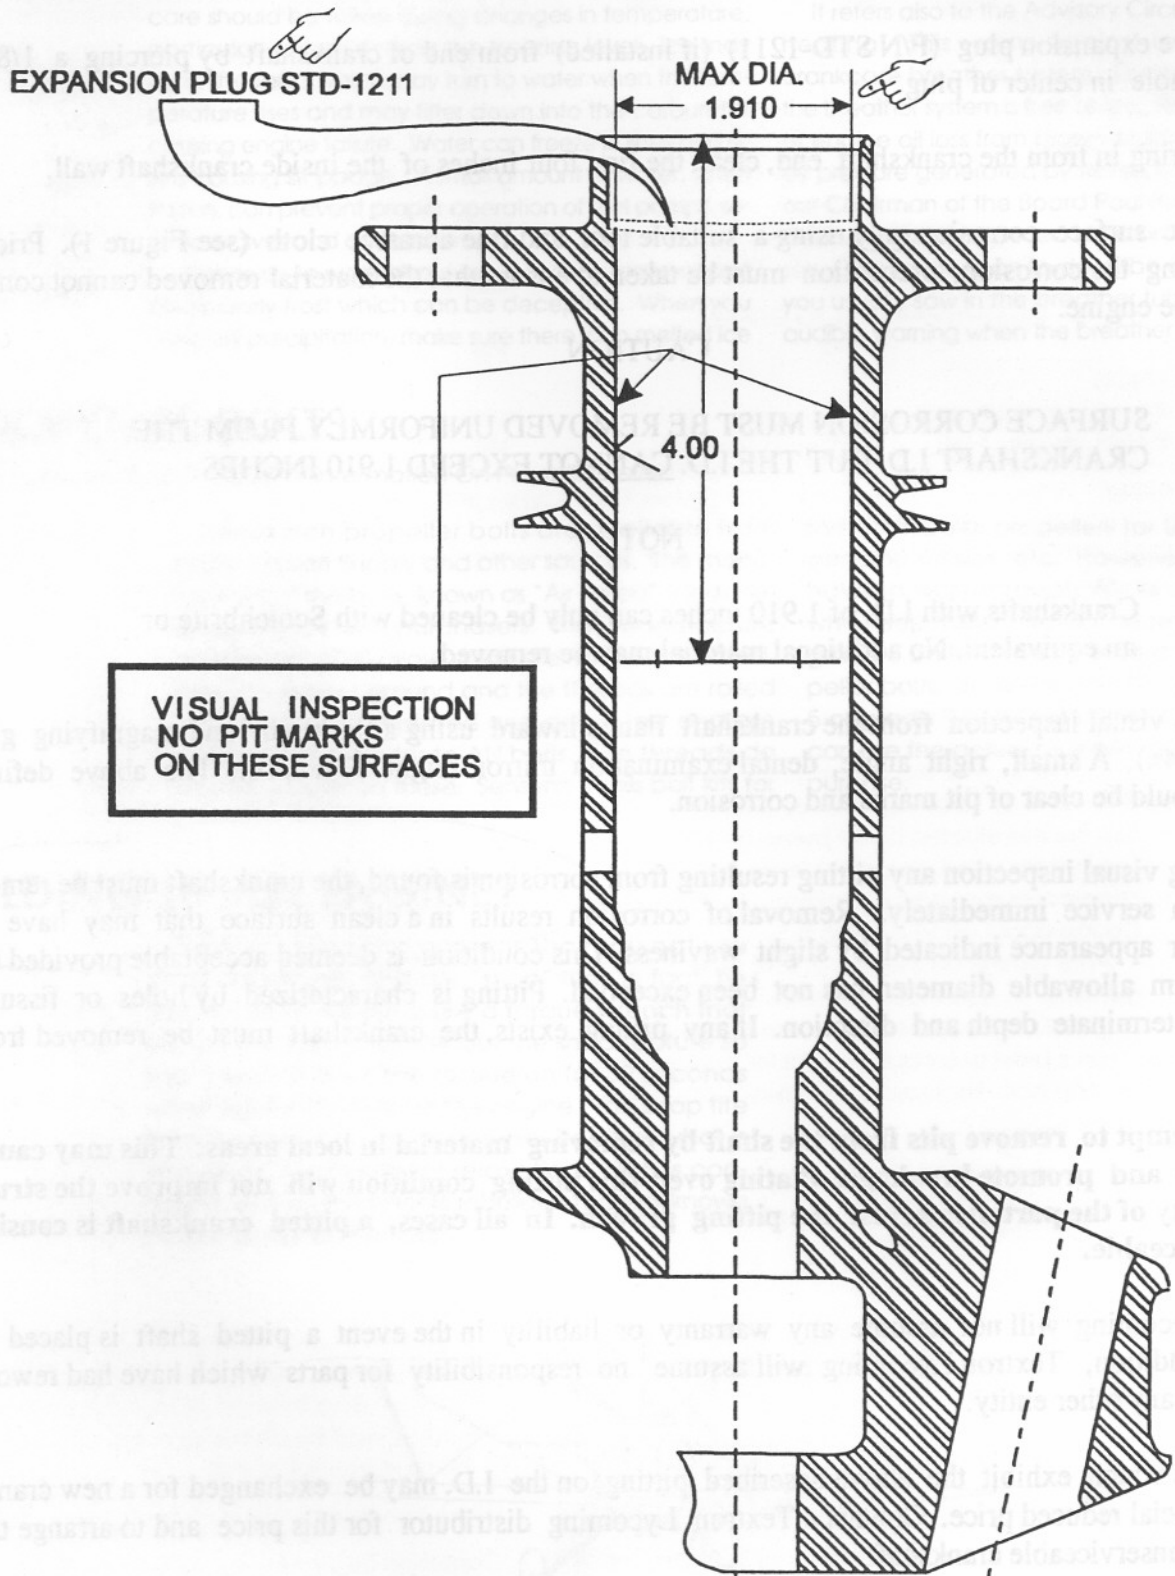

Figure 1. Area to be Inspected
- c. Remove surface corrosion only using a suitable tool and fine abrasive cloth (see Figure 1). Prior to removing the corrosion, precaution must be taken to ensure that the material removed cannot contaminate the engine.